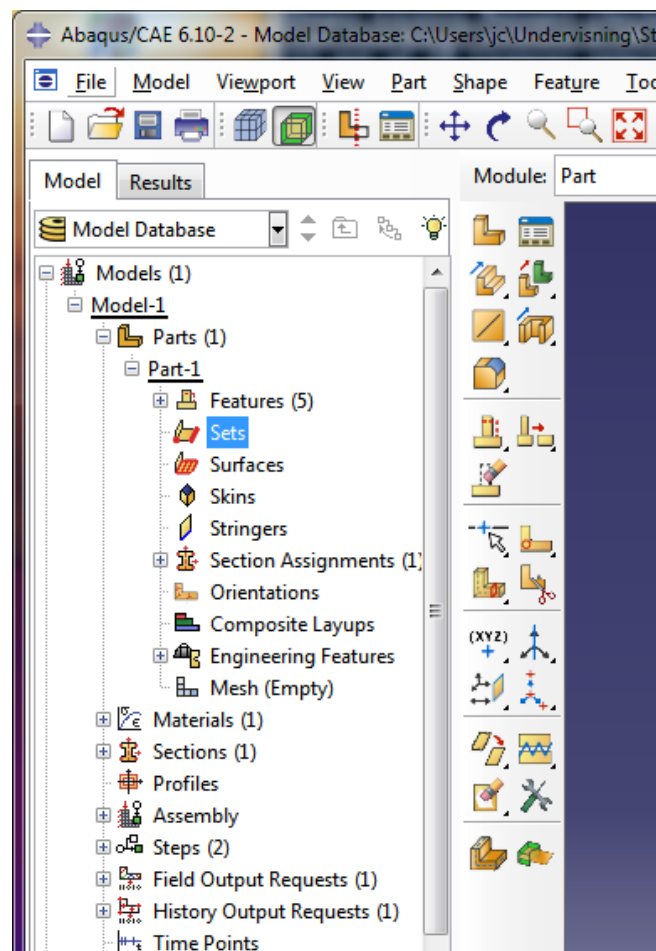

Figure 10. How to create a Set.
1. Go to the **Part** module and expand the tree for your part in the left tree structure, see Figure 10.
- a. Double click on **Sets**, which is highlighted in blue on Figure 10.